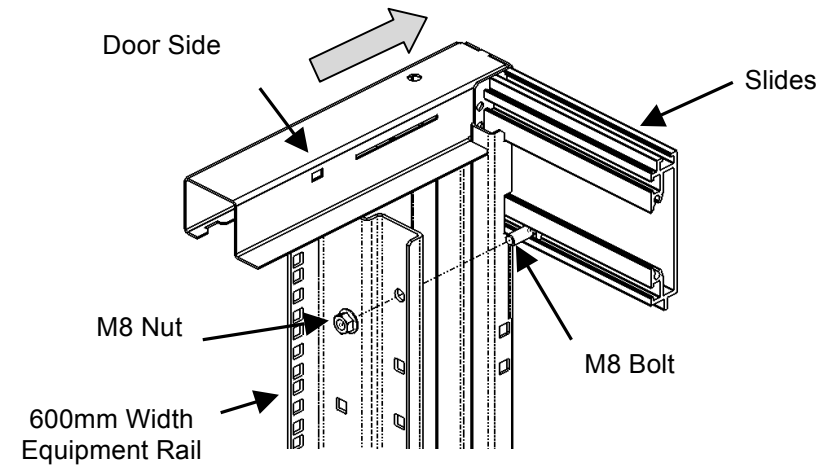

Fig. 4
2. Fasten rail using three M8 Nuts onto three M8 bolts in frame slides (Fig 4 & 5)